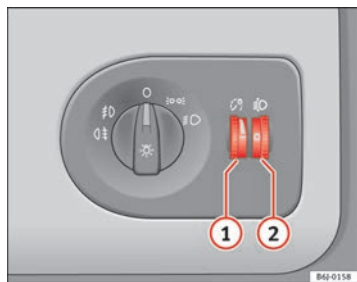

Fig. 51 Dash panel: regulation for instrument and switch illumination and headlight range control
When the headlights are switched on, the brightness of the instruments and switch lighting can be regulated to suit your requirements by turning the thumb wheel → fig. 51 ①.